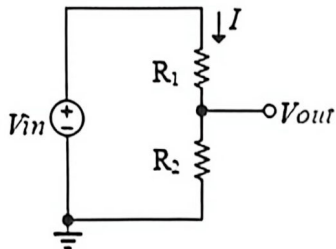

figure 9
5. An alternative to using Ohm's law is to use a voltage divider rule. A voltage divider is a circuit that produces an output voltage (V_{out}) that is a fraction of its input voltage (V_{in}). A simple voltage divider is shown in figure 9. Note that in figure 9, the reference voltage is ground. In this circuit,